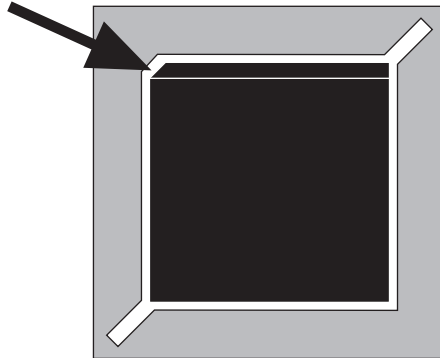

Figure 38: One corner of the chip define its orientation.
- Finally plug the new EPROM. Be careful about the orientation, given by a corner of the ROM, as showed in figure 38.